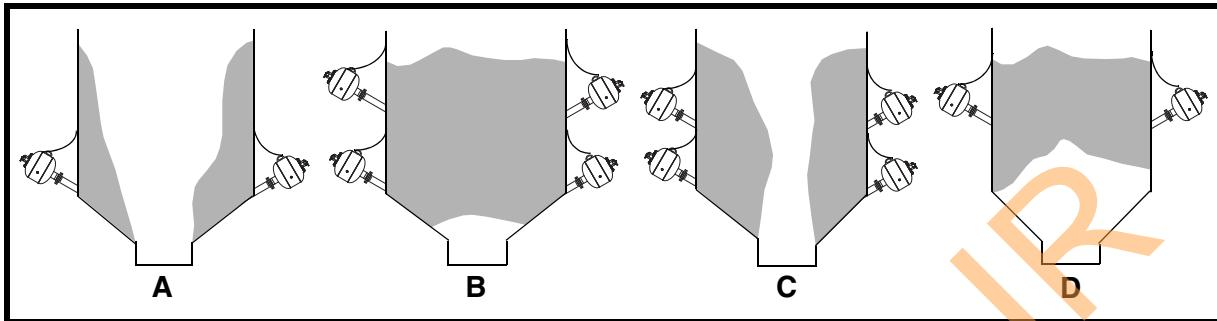

Figure 1. Restricted Material
The Martin® Hurricane Air Cannon is a pneumatic bulk material-moving system that quickly releases compressed air into storage vessels, transfer chutes, gas ducts, and feed pipes to maintain and/or restore material or gas flow to material that is clinging (A), bridging (B), rat-holing (C), or arching (D) (see Figure 1).